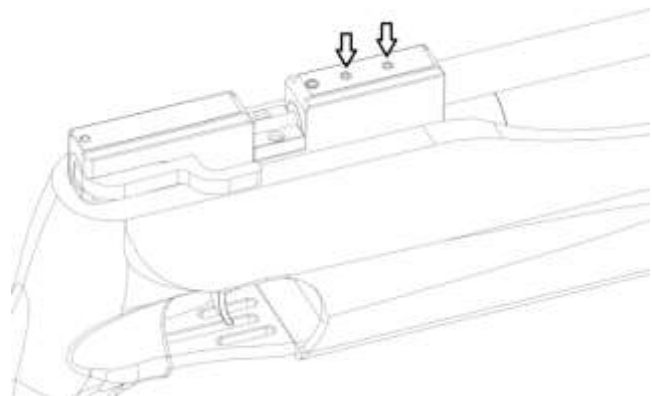

Fig.15
- loosen the two socket head screws situated in the front part of the receiver (Fig.15).